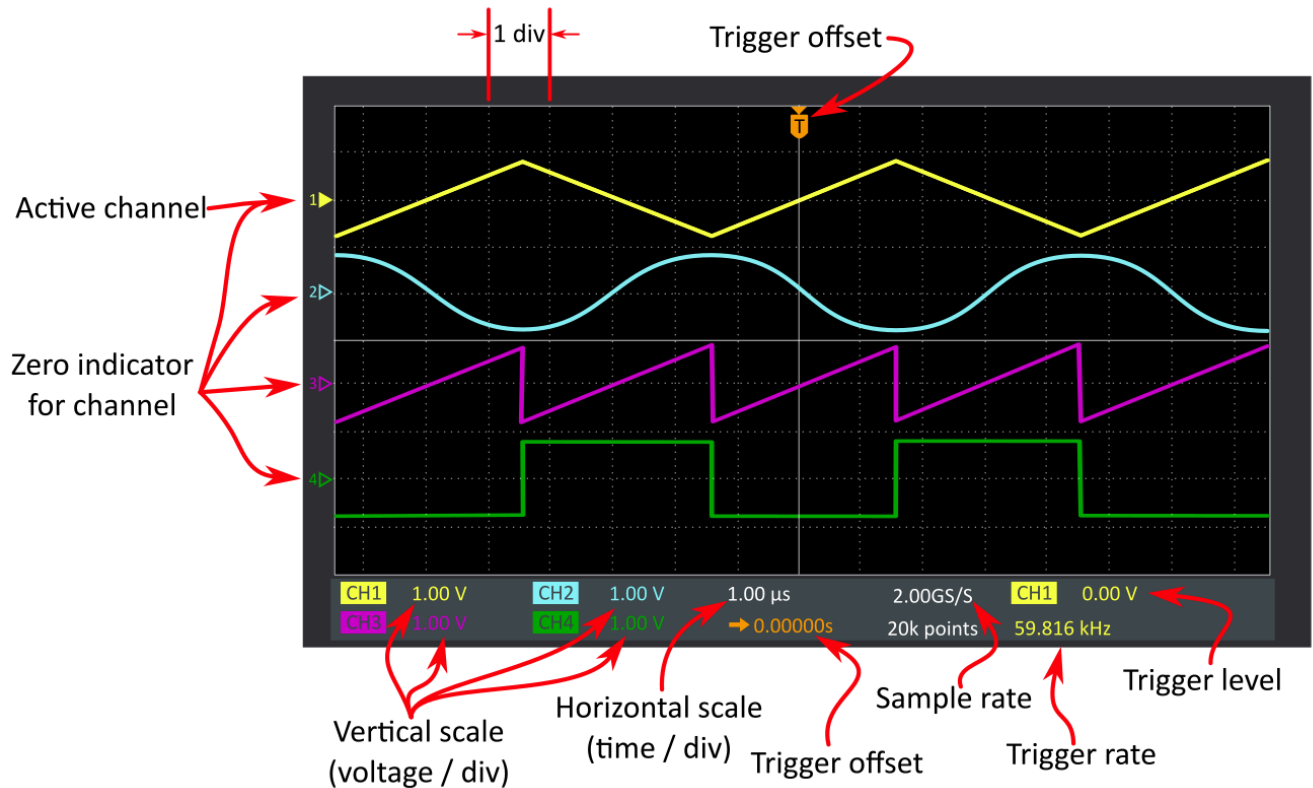

Figure 14: The oscilloscope screen.
1. Try to estimate the voltage by counting the number of divisions and using the reported vertical scale (voltage / division) in the bottom left of the screen (see Figure 14).